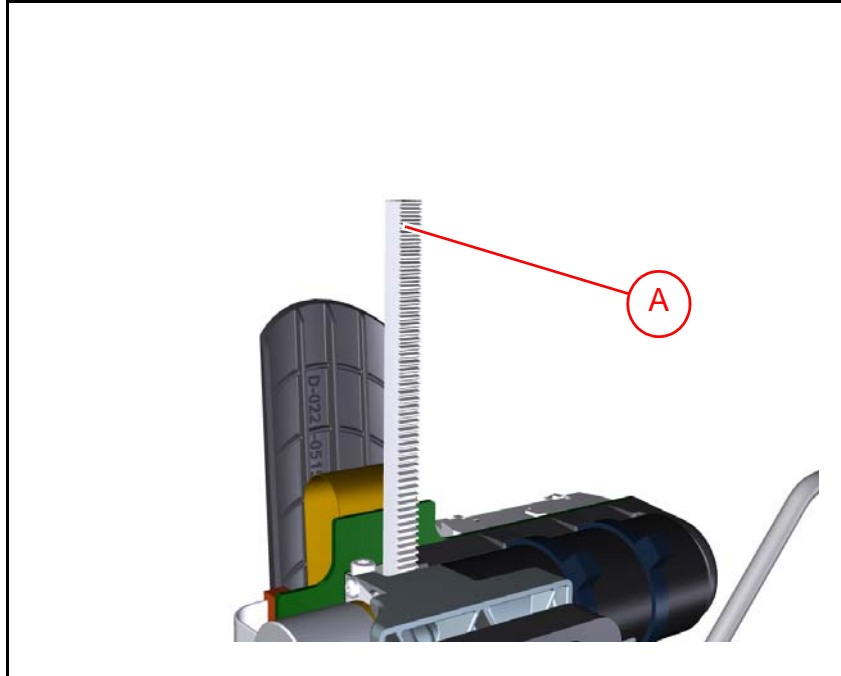

Figure 16-11. Midas Z rack (rear view).
2. Use a lint-free cloth to wipe off old grease and dirt from the Z rack ('A' in Figure 16-11) and apply a new thin layer of OKS 270 grease. Apply the grease on both the front and the back of the Z rack.